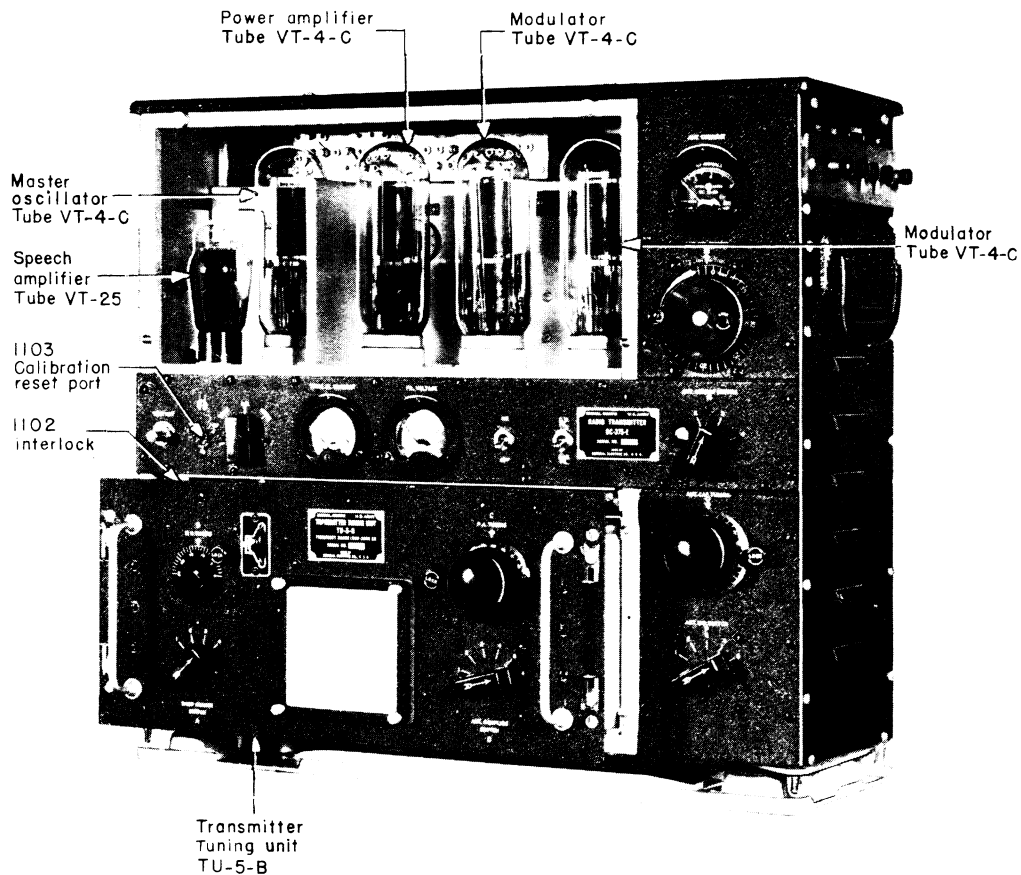

FIGURE 8. RADIO TRANSMITTER BC-375-E TUBE COMPARTMENT SHIELD REMOVED AND TRANSMITTER TUNING UNIT TU-5-B BEING INSERTED
- (1) Remove Plug PL-59 from the radio transmitter. Caution: Do not handle the unused plug.
- (2) Remove the tube compartment shield and insert the tubes. From the front of the radio transmitter, progressing from left to right, the tubes are as follows: (See Fig. 8)